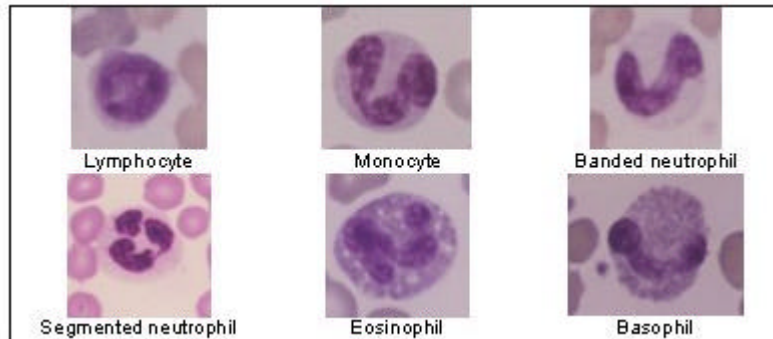

Figure 3-3
- c. Identify each WBC as one of the following (see Figure 3-3):
- (1) Lymphocyte.
- (2) Monocyte.
- (3) Banded neutrophil.
- (4) Segmented neutrophil.
- (5) Eosinophil.
- (6) Basophil.